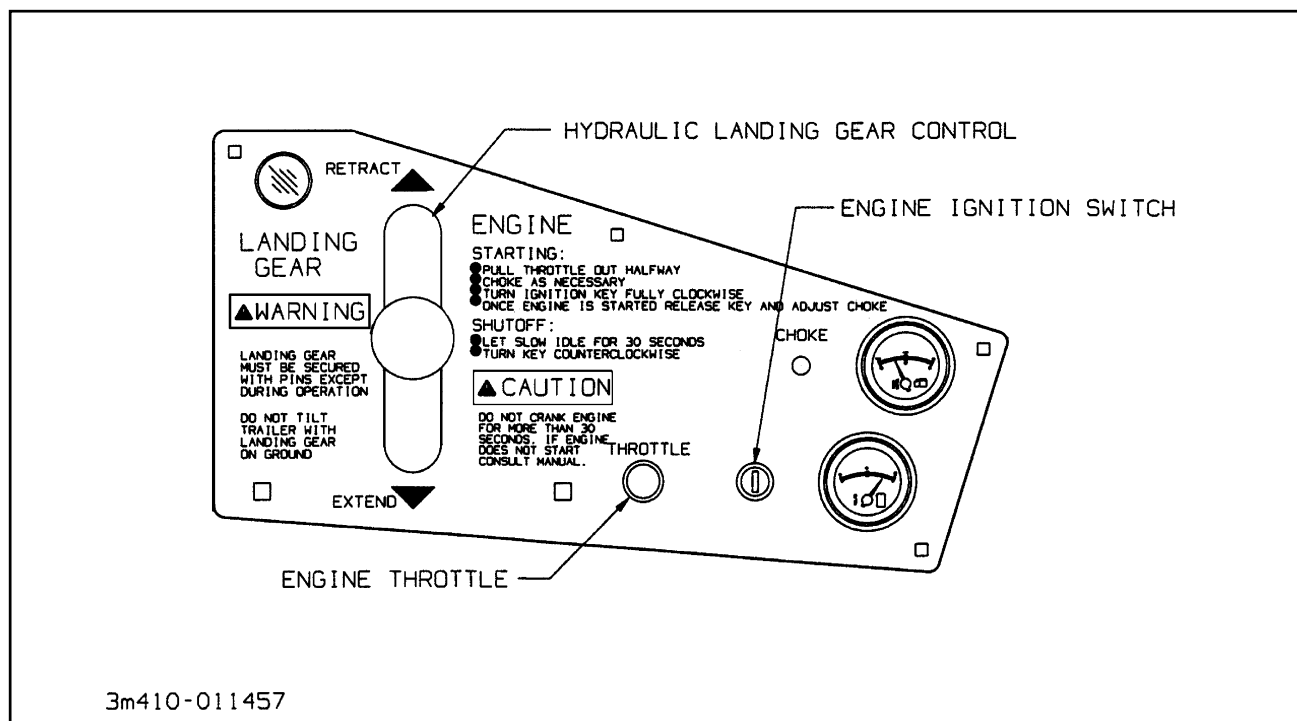

Figure 3-10 Engine Control Panel
**3-18.2** The **ENGINE IGNITION SWITCH** is located below the hydraulic controls, and ahead of them on the driver's side of the semitrailer. Use the key to start and stop the Hydraulic Power Supply Engine. (See **Figure 3-10**). This switch has three positions:
**3-18.3** The **HYDRAULIC POWER SUPPLY ENGINE CHOKE** (See **Figure 3-10**) is located to the right of the Engine Ignition Switch on the driver's side of the semitrailer. The purpose of the Choke is to aid the starting procedure.
**3-18.4** The **HYDRAULIC POWER SUPPLY ENGINE THROTTLE** is located to the right of the choke on the driver's side of the semitrailer. The Engine Throttle controls the speed at which the engine operates (See **Figure 3-10**). It is a variable position control: